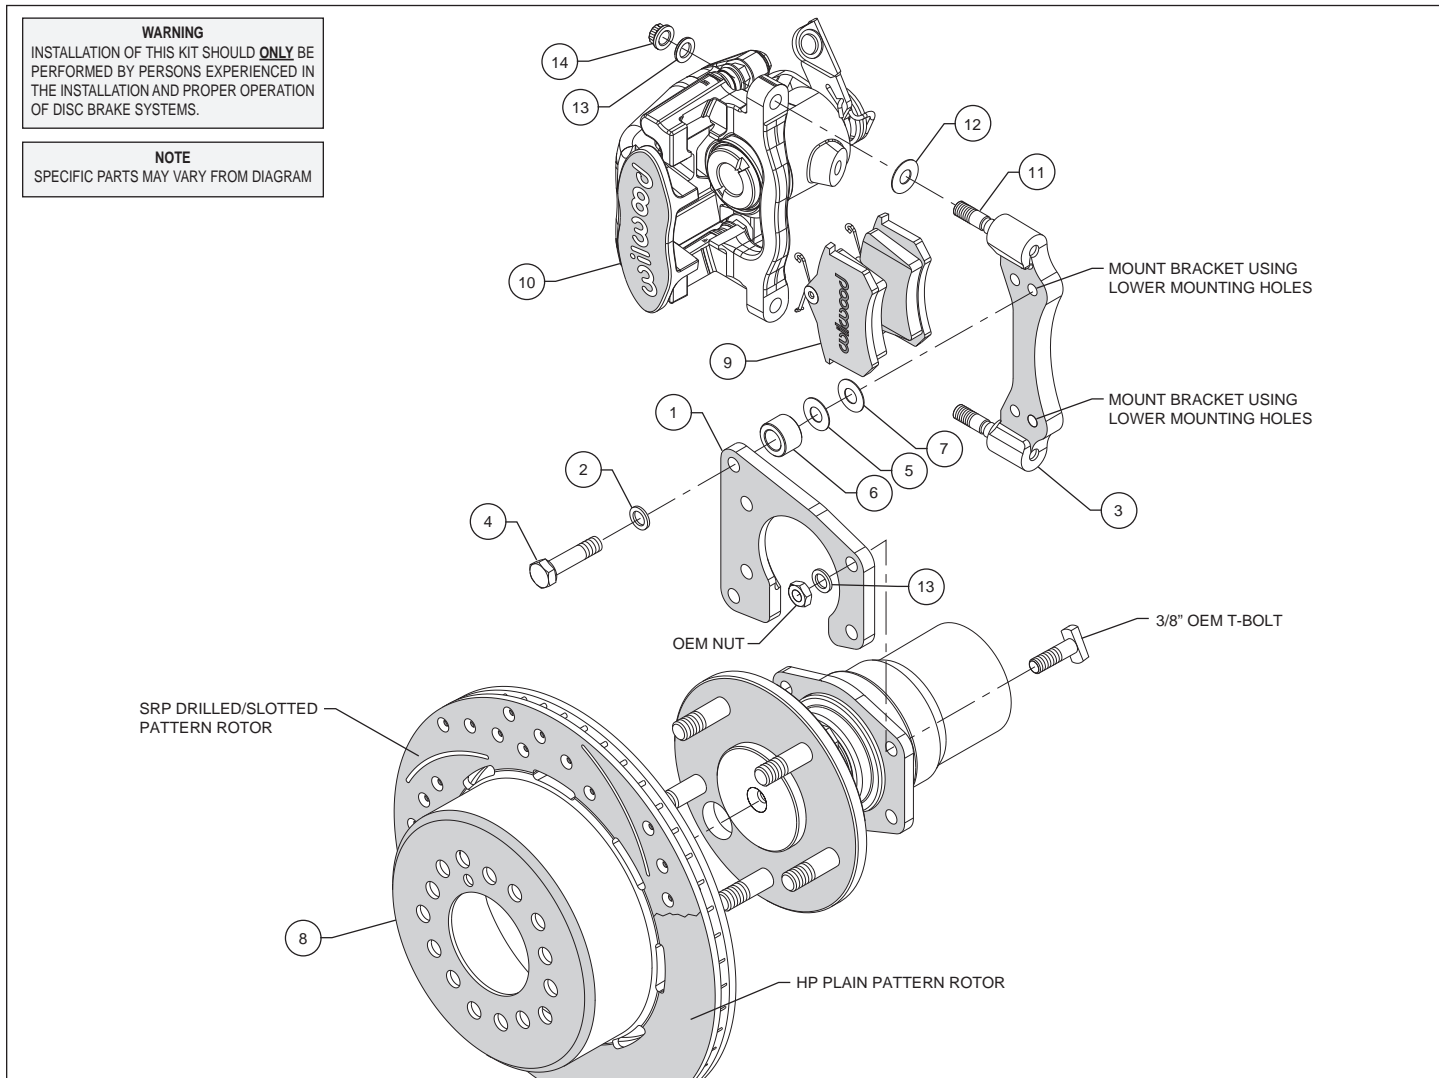

Figure 1. Typical Installation Configuration
Completely disassemble the stock brake system down to the bare axle. Remove and discard OEM retainer by cutting or grinding a notch in the retainer to facilitate removal. Once OEM retainer is removed, discard OEM retain and install new bracket/retainer (1) supplied with kit with the "U" opening facing down and the machined step facing the bearing, reference Figures 1, and 4.
- The axle bracket/retainer (1) and the radial mount caliper bracket (3) should be installed first with clean, dry threads on the mounting bolts. Install the axle bracket/retainer (1) on the outboard side of the housing flange behind the hub assembly with the machined step facing the bearing face. Align the four holes with the holes on the housing flange and secure using the stock Original Equipment Manufacturer (OEM) t-bolts, new washers (15) and OEM nuts. The axle bracket/retainer (1) must tighten squarely against the housing flange. Inspect for interference from casting irregularities, machining ridges, burrs, etc. Once fitment has been verified, apply red *Loctite*® 271 to the stock OEM bolt threads and torque to OEM specifications. T-bolts must pass completely through nut by at least two full threads.
- Install the radial mount bracket (3) on the inboard side of the axle bracket/retainer (1) by sliding bolt (4) through washer (2), through the axle bracket/retainer (1) mounting holes, through spacer (6) and through two shim washers (7) and thread into the radial mount caliper bracket (3) lower mounting holes, reference figure 1 as necessary.
- Align the correct hole pattern in the hat/rotor (8) with the stud pattern on the axle flange. **NOTE:** Some OEM and after market axles come with stud sizes larger than 0.50" diameter. Verify stud size and have a qualified machine shop drill the bolt circle of the hat/rotor to the correct stud size, if necessary. Slide the hat/rotor (8) over the wheel studs and against the axle flange face. Check to be sure the hat/rotor (8) seats squarely against the axle flange. The axle flange must be free from any rust, debris, casting burrs, machining irregularities, etc. Use several lug nuts to hold the hat/rotor firmly in place during the next phases of the installation and clearance checking procedures.